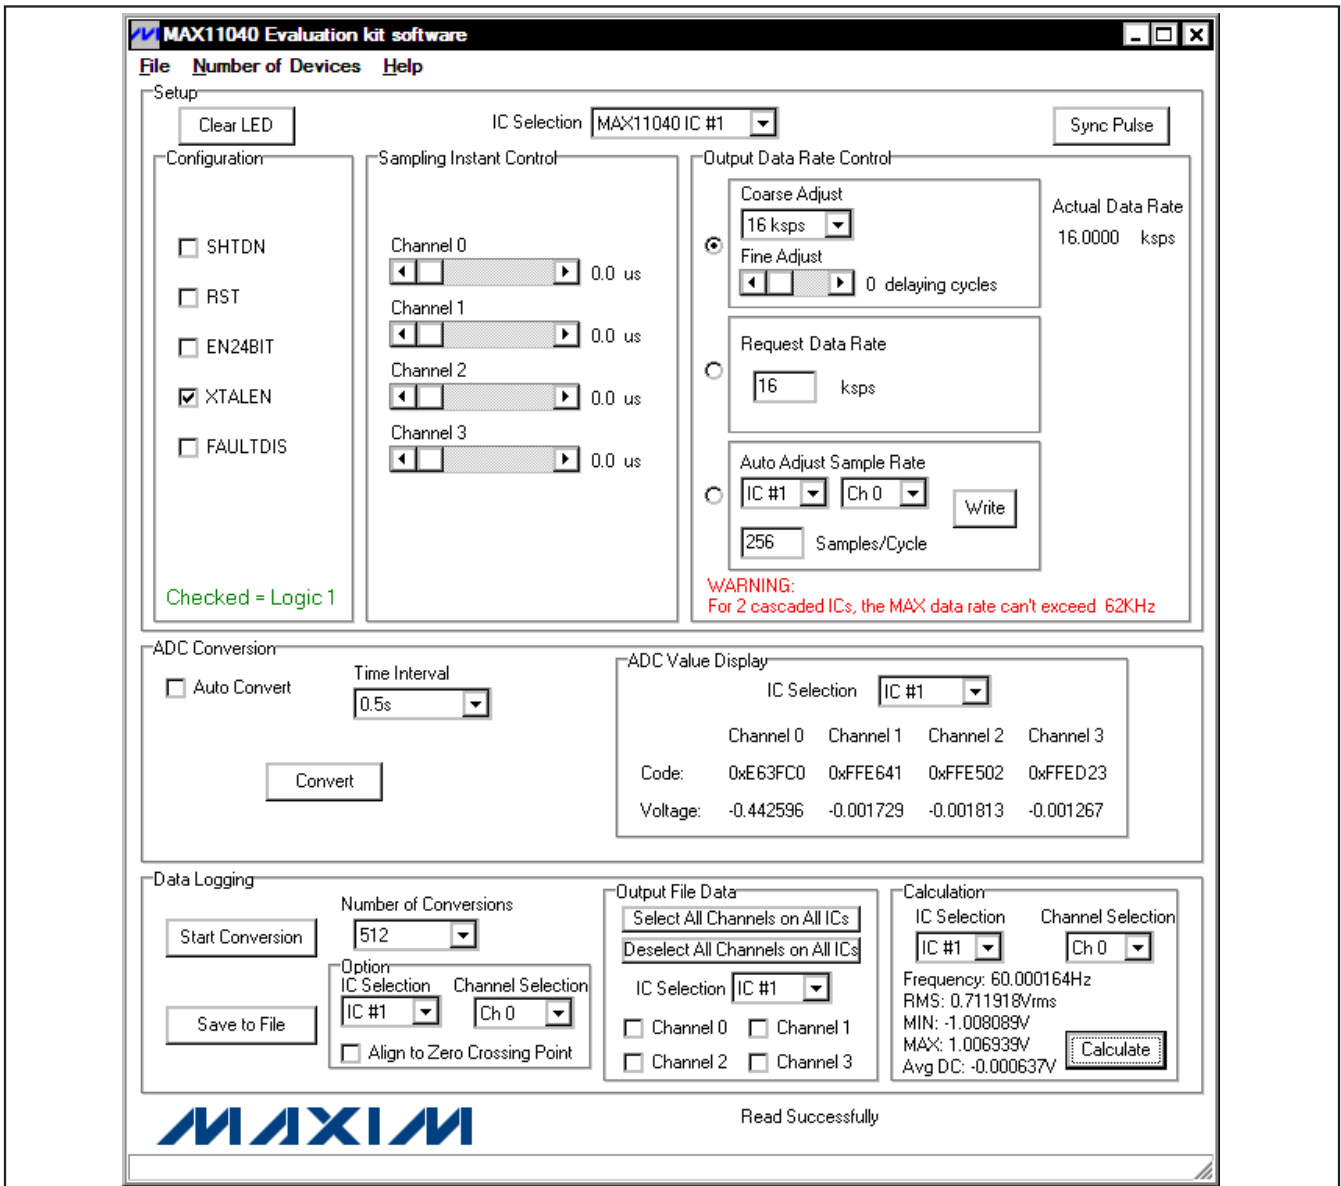

Figure 1. MAX11040 Evaluation Kit Main Window
- 12) Wait until the program automatically detects the MAX11040 hardware and displays the user-interface panel (Figure 1).
The MAX11040 EV kit's main window is shown in Figure 1. The **Setup** group box, located at the top of the window, contains **Configuration**, **Sampling Instant Control**, and **Output Data Rate Control** group boxes. Functions related to reading single-sample ADC values in the **ADC Conversion** group box are located in the middle section. Data-logging functions and data calculation are in the **Data Logging** group box, located at the bottom of the main window.
There are four LED indicators (D1–D4) on the daughterboard. D1 and D2 LEDs reflect the real-time logic levels on the  $\overline{\text{FAULT}}$  and the  $\overline{\text{OVRFLW}}$  pins, respectively. D3 and D4 LEDs latch on the fault conditions on the  $\overline{\text{FAULT}}$  and the  $\overline{\text{OVRFLW}}$  pins, respectively. When D3 or D4 is turned on, press the **Clear LED** button in the EV kit software (Figure 1) or press the on-board pushbutton (S2) to turn off the LEDs after the faults are cleared. All IC  $\overline{\text{FAULT}}$  and  $\overline{\text{OVRFLW}}$  pins are open drain and respectively connected in a wired-ORed configuration.